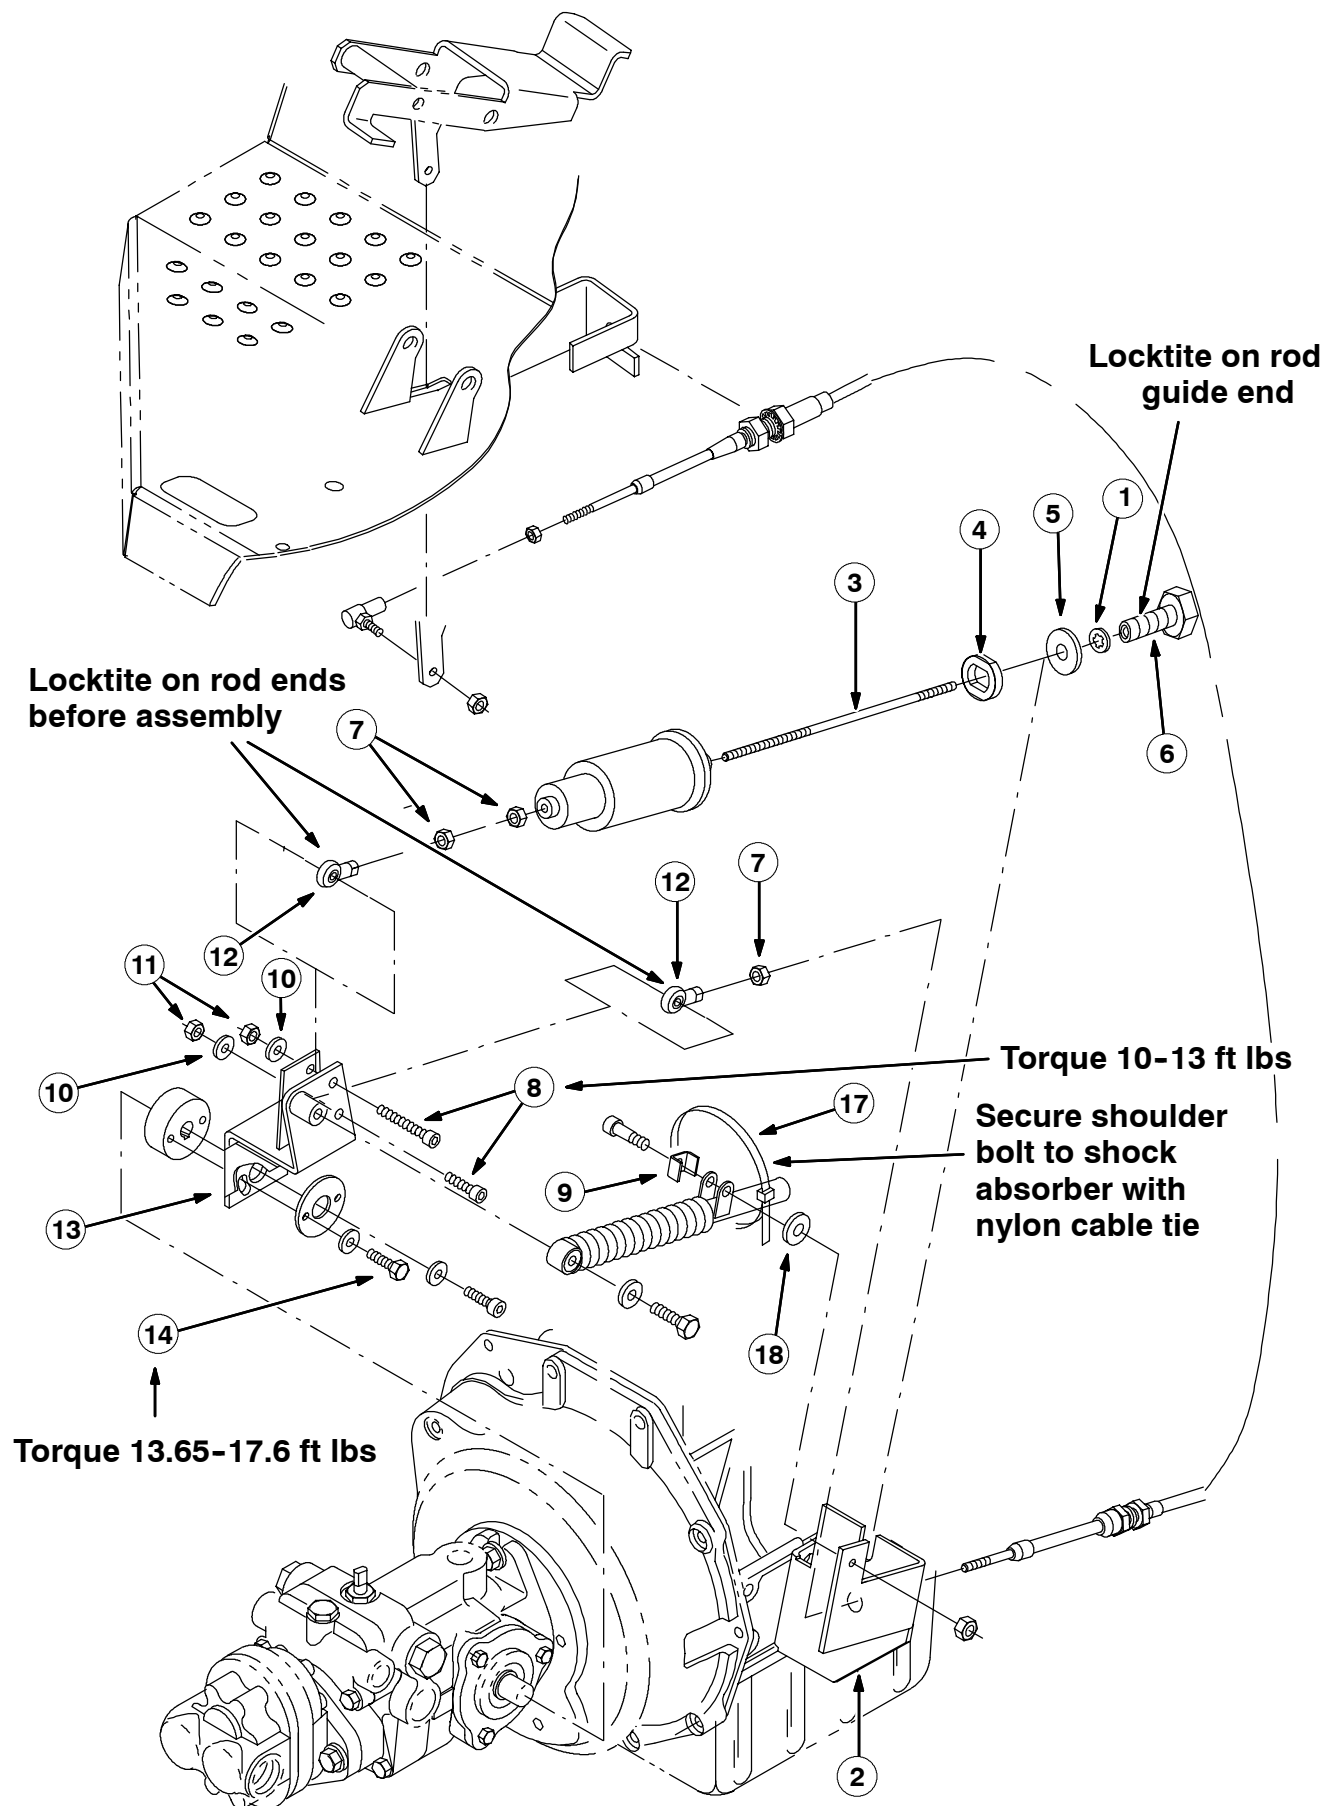

FIG. 2 - NEW HYDRAULIC PUMP LINKAGE ASSEMBLY
1. Slide and secure the new propelling linkage mounting bracket (2) to the propelling cable with jam nut. Mount the propelling linkage bracket to the engine with the set aside hex screws and washers. Hand tighten mounting hardware. (Refer to FIG. 2)
2. Install the jam nut (7) onto the propelling cable. Install the rod-end ball joint (12) onto the end of the propelling cable with blue locktite (16). (Refer to FIG. 2)
3. Connect the rod-end ball joint (12) to the new propel lever assembly (13) with a socket head screw (8), washer (10) and hex nut (11). (Refer to FIG. 2)
4. Guide the new threaded rod (3) through the hydroback. Insert two hex nuts (7) onto the threaded rod (3) from the tapered end of the hydroback.
5. Thread the second rod-end ball joint (12) all the way onto the end of the threaded rod (3) with blue locktite (16). Lock the rod-end ball joint (12) in place with the lock nut. Back the securing hardware off, if necessary. Leave 3/16" between the jam nuts for later fine tuning. (Refer to FIG. 2)
6. Install the plastic spacer (4), tapered edge first, over the threaded rod (3) on the fat end of the hydroback. (Refer to FIG. 2)
7. Insert the flat washer (5), lock washer (1) and the rod guide (6), with a drop of locktite, onto the end of the threaded rod. (Refer to FIG. 2)
8. Connect the rod-end ball joint (12) on the end of the hydroback, to the new propel lever assembly (13) with a socket head screw (8), washer (10) and lock nut (11). (Refer to FIG. 2)
9. Move the new propel lever assembly (13) and hydroback into mounting position on the side of the hydraulic pump. (Refer to FIG. 2)
10. Mount the propel lever assembly (13) to the hub with two hex screws (14) and set aside spacer washer. (Refer to FIG. 2)
11. Secure the hydroback into position on the cable mounting bracket (2) with hardware mounted earlier. (Refer to FIG. 2)
12. Tighten the hydroback securing hardware. (Refer to FIG. 2)
13. Install the retainer bracket (9) on the shock absorber with the shoulder bolt and rubber washer (18). (Refer to FIG. 2)
14. Secure the shoulder bolt in the shock absorber with the nylon cable tie (17). (Refer to FIG. 2)
15. Mount the shock absorber to the cable mounting bracket (2) with the shoulder bolt, and hex nut. (Refer to FIG. 2)
16. Secure the other end of the shock absorber to the propel lever assembly (13) with the set aside hex screw and flat washer. (Refer to FIG. 2)